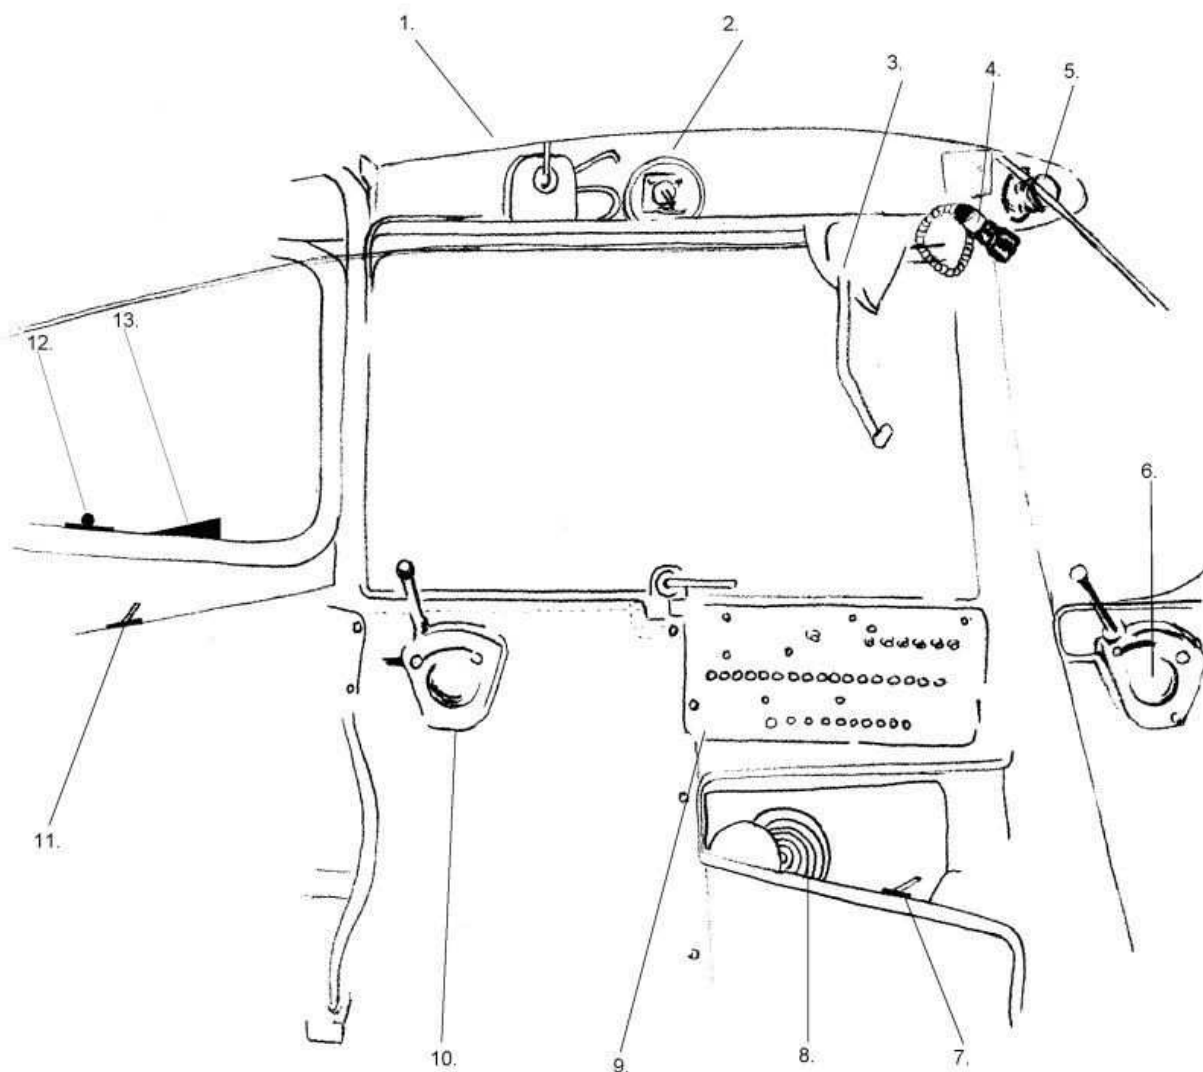

Figure 1-2 Cockpit Layout – Left Side
16. An elevator trim-tab control wheel (Figure 1-2) is located on the left cabin wall. The tab control wheel is mechanically connected to the elevator tab by chains, cables, and a screw-jack actuator. A tab position indicator is incorporated to indicate the trim tab position. The indicator is labelled **NOSE UP**, **NOSE DN**, and **TAKE OFF**.
20. The rear cockpit switch is a four-position spring-loaded and guarded switch installed on the left hand side of the rear cockpit window ledge (Figure 1-2). When the switch is moved from the NORMAL (down and guarded) position, to the OFF (unguarded and up) position, power to the flap selector switch in the front cockpit is cut off. The rear cockpit pilot is then able to adjust the flaps to the desired setting by moving the switch to either the FLAPS UP or FLAPS DOWN position. The rear cockpit flap switch should remain in the NORMAL position when not in use.